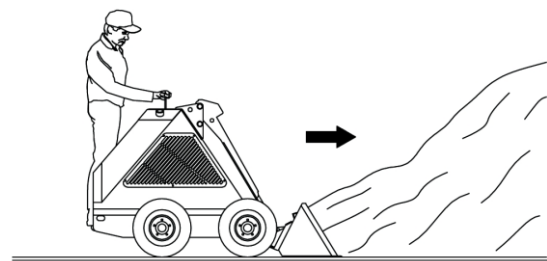

Fig. 11 – Approaching a Pile
1. Approach a pile of material with the lift arms fully lowered and the bucket cutting edge just skimming the top of the ground as shown in Figure 11.